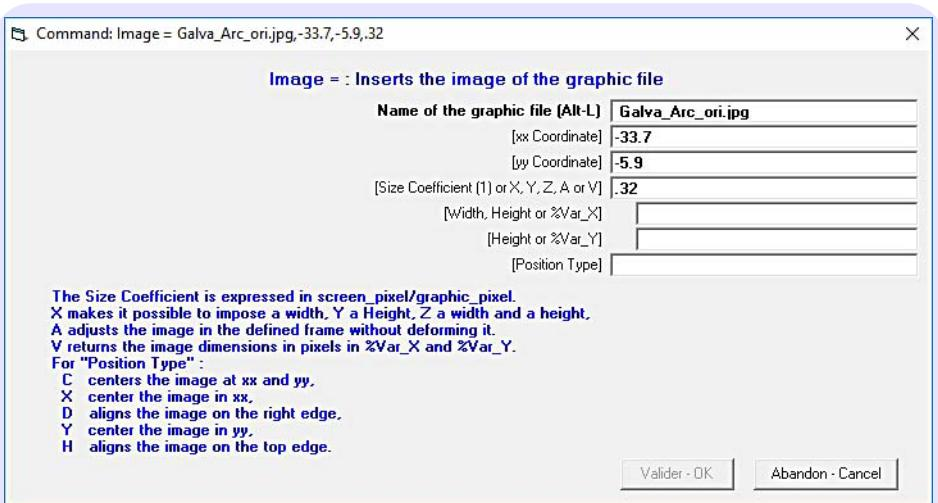

Fig. 6 - Input mask for the **Image** command
You are not wild about writing commands with a sometimes large number of parameters! So, do not panic, the **Input Masks**, set up with the version 2.50, make the entry of the parameters of a command now easy. They give a description of the command and for each parameter, thus avoiding knowing the order of the parameters and their meaning. An example is given in Fig. 6 for the **Image** command, another in Fig. 9 for the external command **GCE_E** (mnemonic for GalvaCommandExternal_Echelle [Echelle is Scale in French]).
- press F2 to open the Input Mask of this command (see Fig. 6),